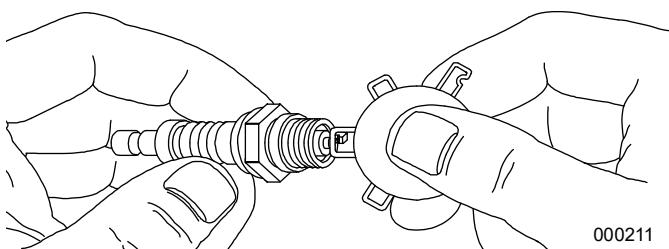

Figure 3-65. Checking Spark Plug Gap
3. See **Figure 3-65**. Use a wire feeler gauge to set the gap on new or existing spark plugs as per **Table 3-12**.